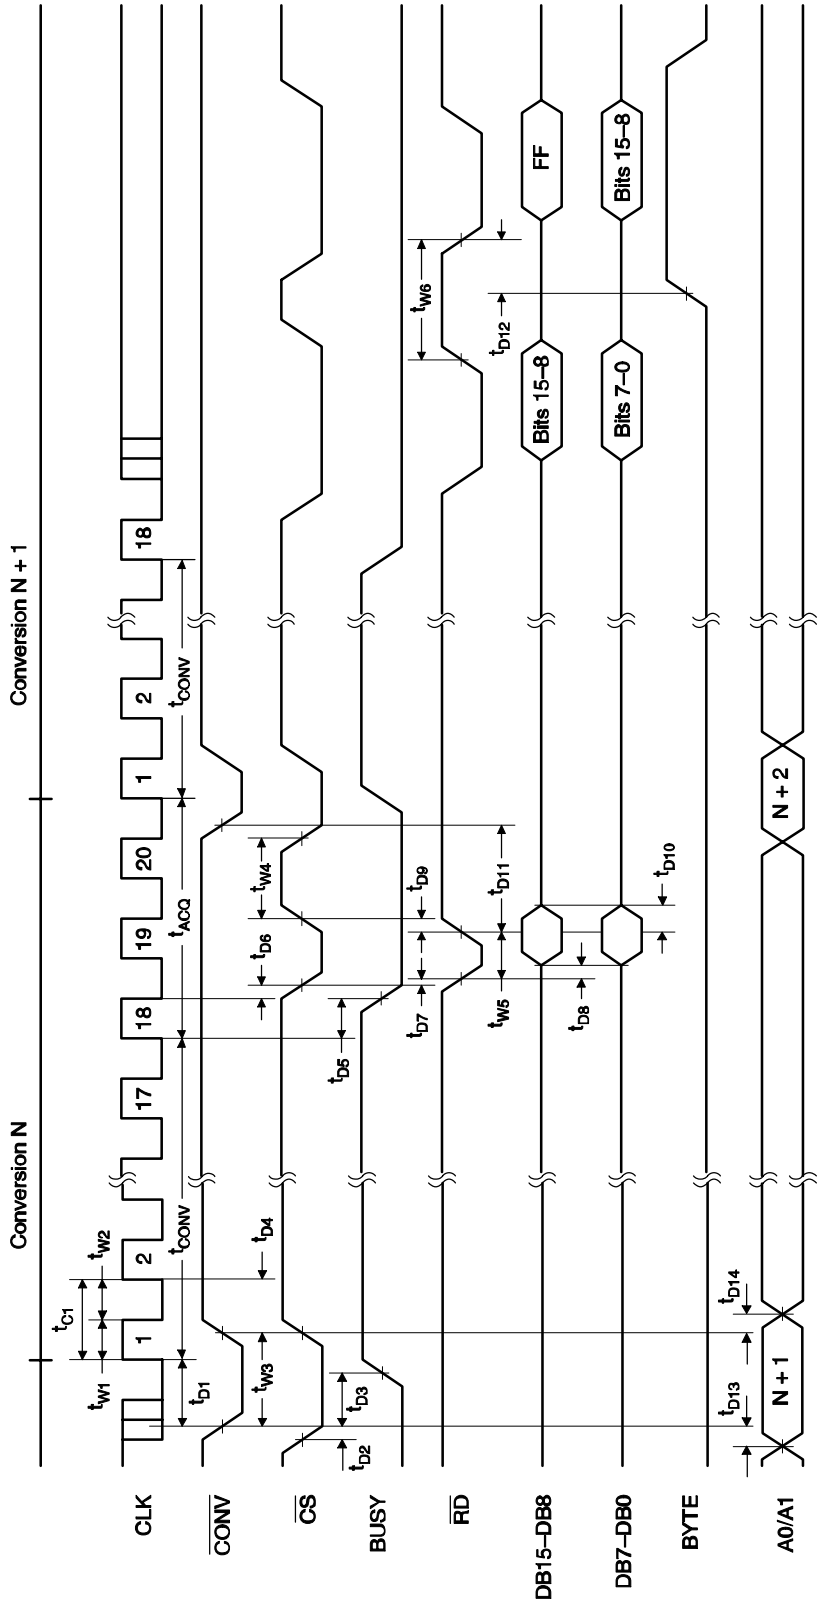

Figure 2. Timing Diagram
(1) All input signals are specified with rise and fall times of 5ns,  $t_{\text{R}} = t_{\text{F}} = 5\text{ns}$  (10% to 90% of  $\text{BV}_{\text{DD}}$ ), and timed from a voltage level of  $(V_{\text{IL}} + V_{\text{IH}})/2$ .
(2) See timing diagram in Figure 2.